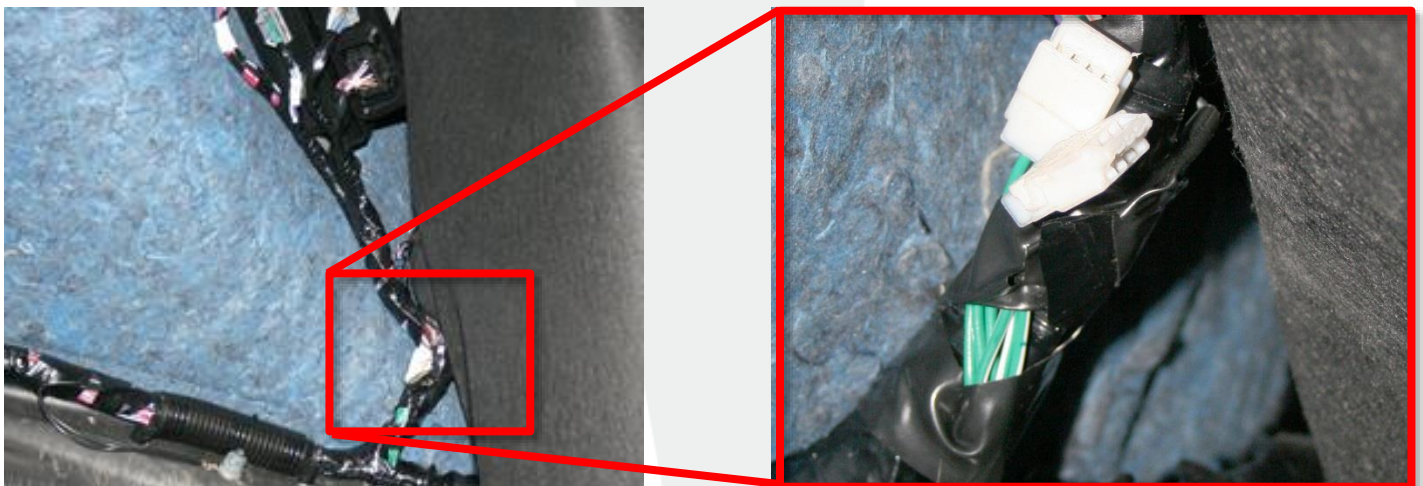

Figure 21
22. In the RH trunk area beneath the electric park brake ECU, remove the tape to expose the 2 white harness connectors that are taped to the RH main harness (Figure 21).
26. Tape the green and green/white wires to the RH main harness (Figure 21).